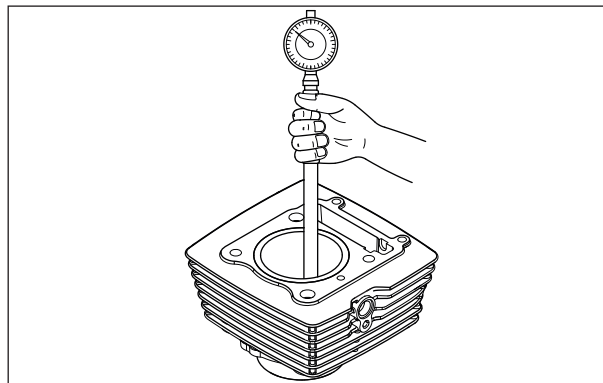
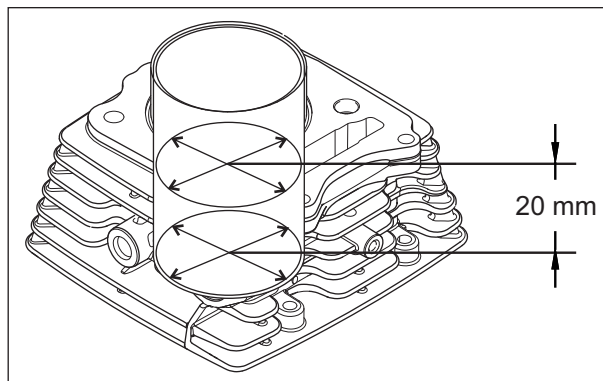

Fig. 3.85
Fig. 3.86
- Measure the cylinder block ID (bore) using the bore gauge. Cylinder bore should be checked in two axis with reference to the cylinder axis at three locations as shown in the figure. (Fig. 3.85 & Fig. 3.86)